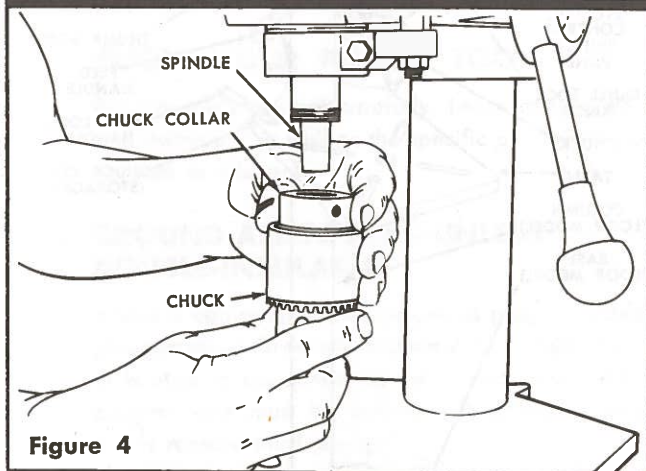
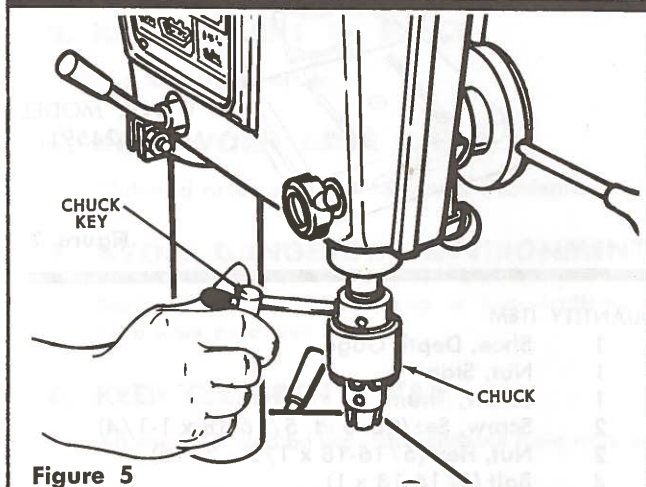

Figure 4
Figure 5
6. Apply a light film of oil on spindle taper and place chuck on end of spindle (See figure 4). Screw the chuck collar onto the threaded portion on end of spindle. Hold spindle pulley with one hand to prevent spindle from rotating and tighten chuck collar with drill chuck key. (See figure 5).
2. Apply a light film of oil on spindle taper and place chuck on end of spindle (See figure 4). Screw the chuck collar onto the threaded portion on end of spindle. Hold spindle pulley with one hand to prevent spindle from rotating and tighten chuck collar with drill chuck key. (See figure 5).
When removal of the chuck is required, make sure the power cord is disconnected. Prevent rotation of spindle by holding the spindle pulley, and loosen chuck locking collar with the end of the chuck key (see figure 5). Continued rotation of the collar will force the chuck off the tapered spindle. Do not attempt to drive or wedge the chuck off, as this could damage the spindle, spindle bearing or both.